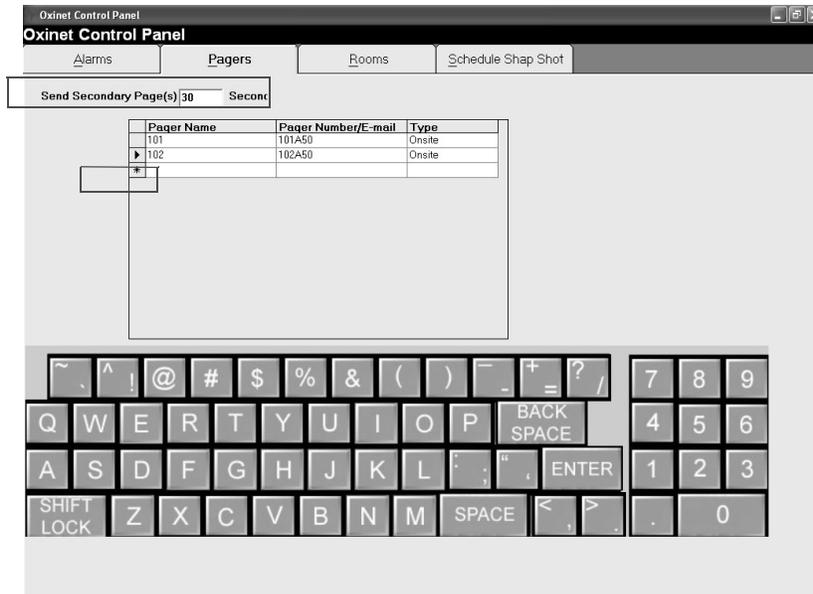

Figure 25: Pagers Menu — Initial
- 1 Press (or click) the **Pagers** tab to open the **Pagers** menu as shown in Figure 25.
- Use the *Send Secondary Page(s)* field to set the interval (in seconds) between the initial page to the primary pager and the page to the secondary pager(s), if pagers are assigned to the patient. For example, if you type **30** (Figure 25), the secondary pager notification will occur 30 seconds after the initial page occurs (if no one responds to the initial alarm page to either silence the alarm at the oximeter or resolve the reason for the alarm).
- Press (or click) the starred (*) cell (Figure 25) in the *Pager Name* column.